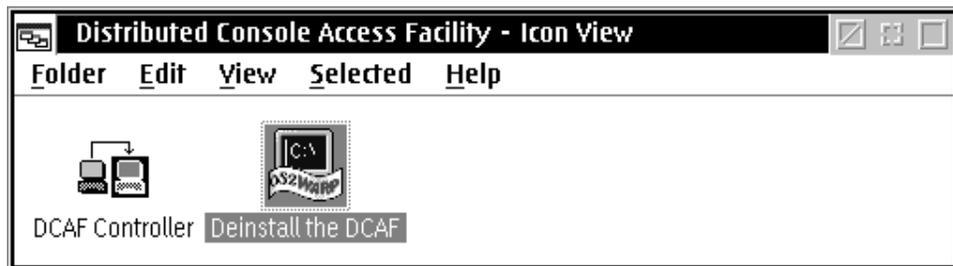

Figure 161. Distributed Console Access Facility - Icon View Window
3. Select the **DCAF Controller** icon in the Distributed Console Access Facility - Icon View window (Figure 161).